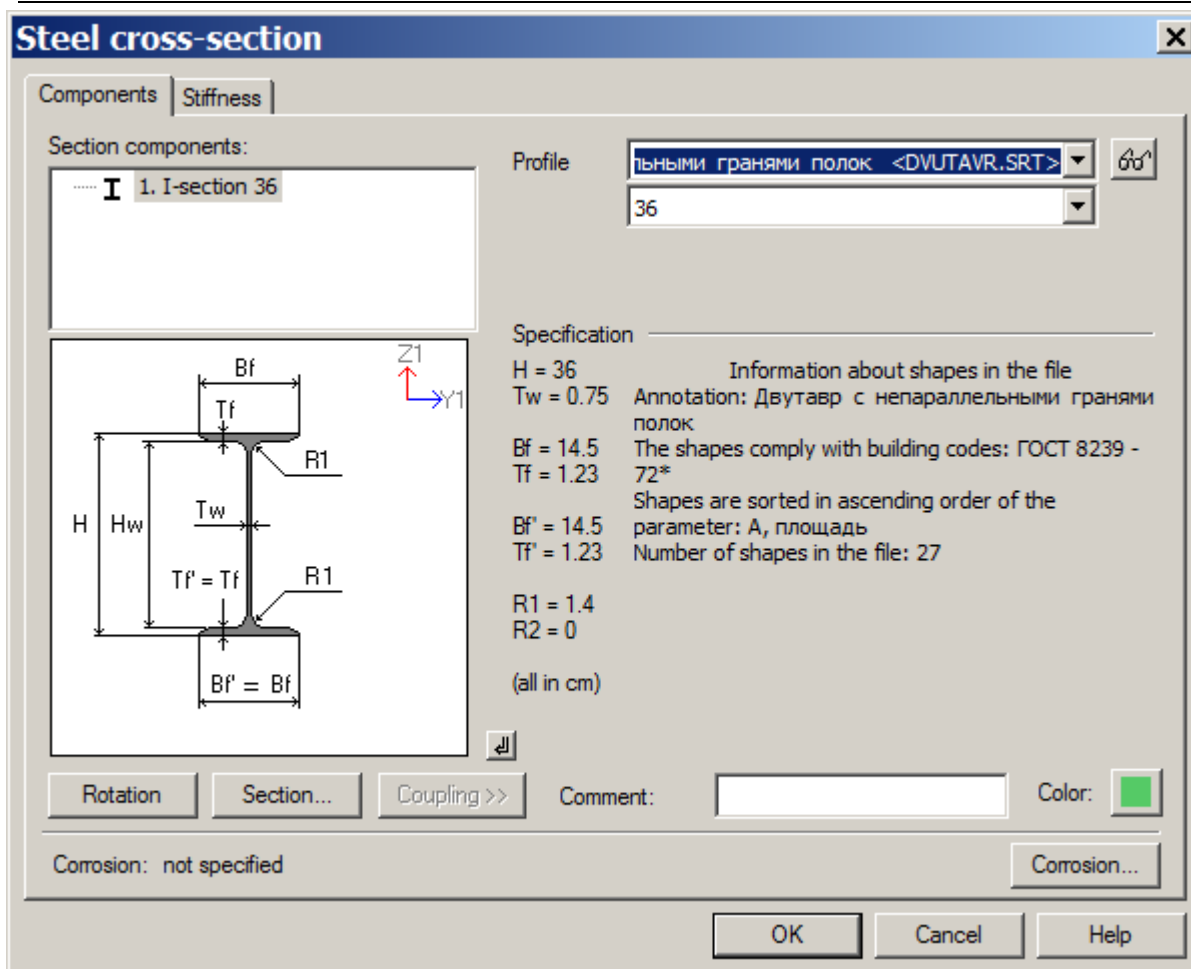

Figure 3.10 Steel cross-section dialog box
- ⇒ In the **Steel cross-section** dialog box specify the following parameters for I-section (see Fig.3.10):